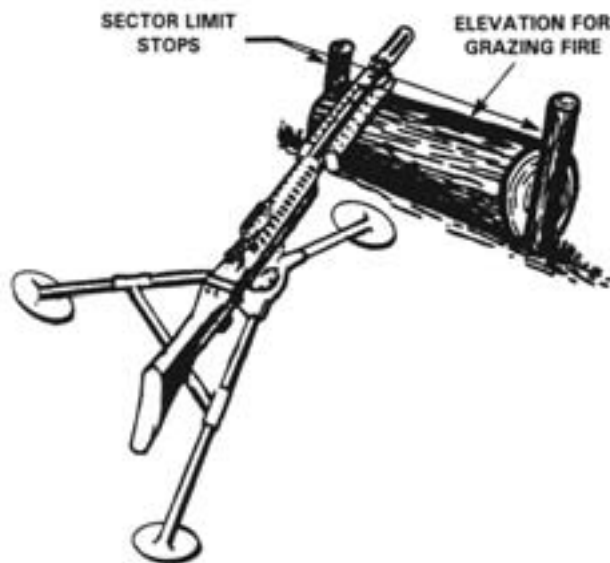

Figure 6-33. Field Expedient—Horizontal Log Method.
3) **Horizontal log method.** This technique is used to define sector limits and fields of grazing fire. The FPL would be located along one of the sector stakes. A log or board is placed between the sector stakes in such a way that the barrel will be at the proper elevation to obtain grazing fire across the front. In this case, the tripod is used, but not the T&E mechanism. See figure 6-33.